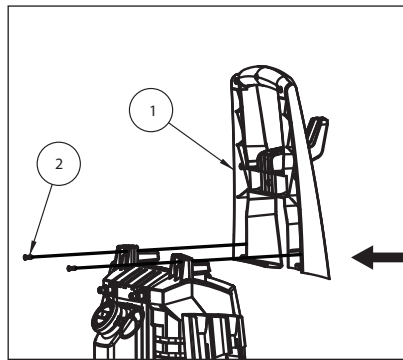

Figure 5 - Attach handle (PW190100 only)
3. Attach the handle (1) onto unit with 2 phillips screws (See Figure 5).